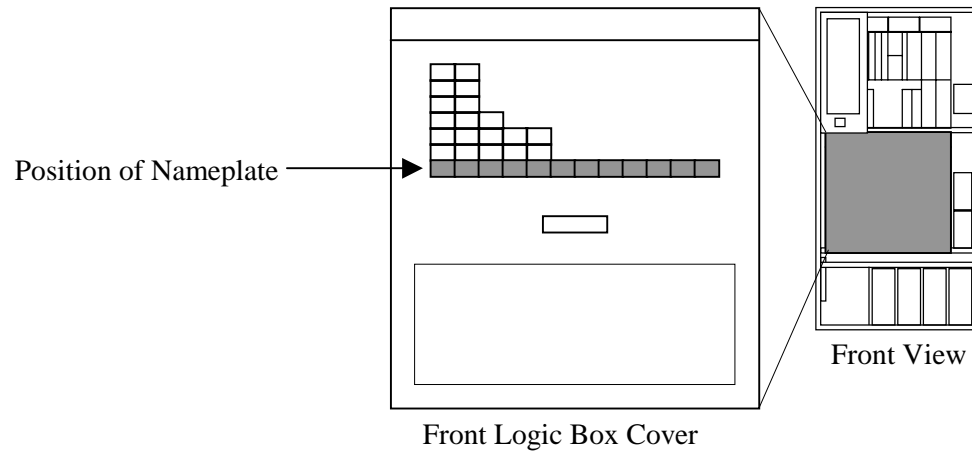

Fig. 4.6-12 Removal of Nameplate
- a. Remove the nameplate referring to Fig. 4.6-12.